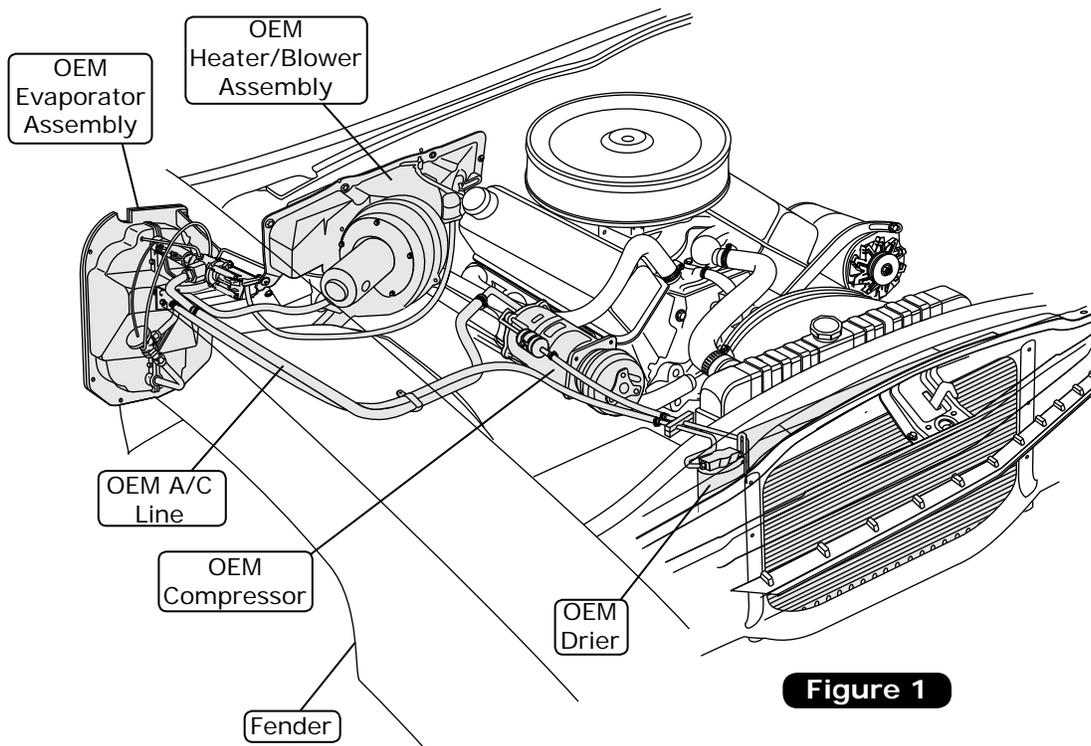

Figure 1
5. Remove the OEM condenser and drier (discard) (See Figure 1, below).
6. Remove the OEM A/C lines from the compressor to the evaporator (discard) (See Figure 1, below).
7. Remove the OEM A/C compressor and compressor bracket (discard) (See Figure 1, below).
8. Remove the OEM blower assembly (discard) (See Figure 1, below).